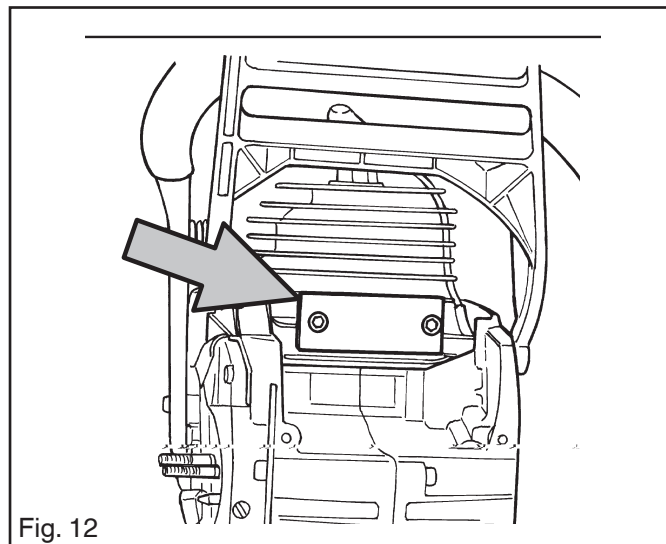

Fig. 12
3. Fit cover plate (*Refer to pos. 2b "3 Service tools" on page 8*) with M6x20 mm on the exhaust port. See fig. 12.